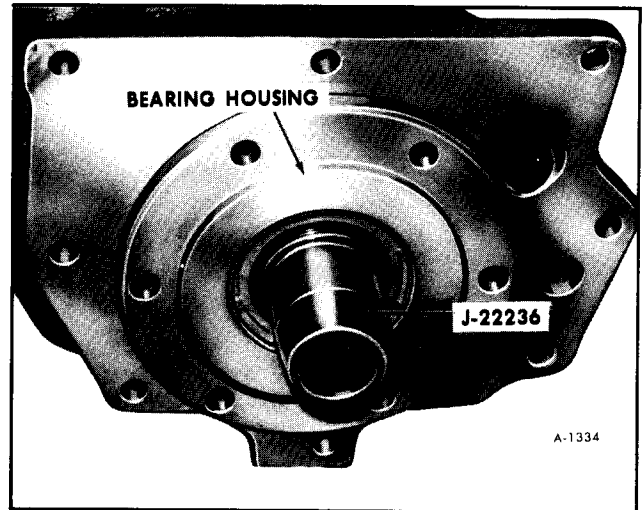

Figure 46—Installing Bearing Housing Into Final Drive Housing
10. Install seal protector J-22236 over drive pinion and install bearing housing over seal protector and position on the final drive housing. Torque the attaching bolts to 45 ft. lbs. (figure 46). Remove Tool J-22236.